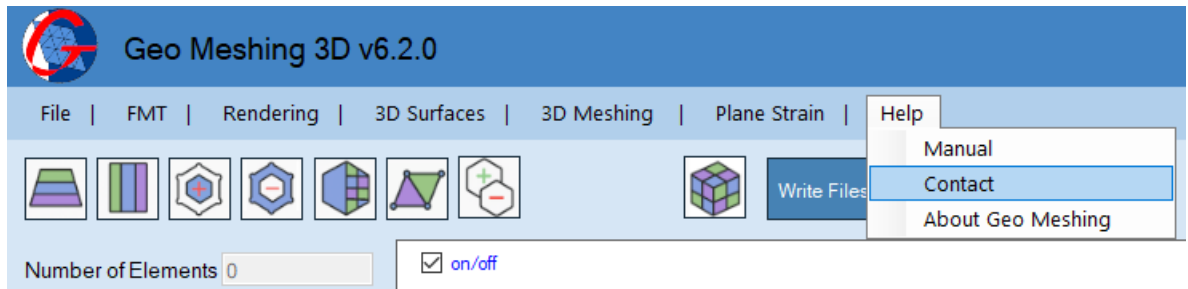

Figure 39: Help Strip Menu – Contact.
- **Help Menu, Contact:** This option (shown in Figure 39) displays support information.